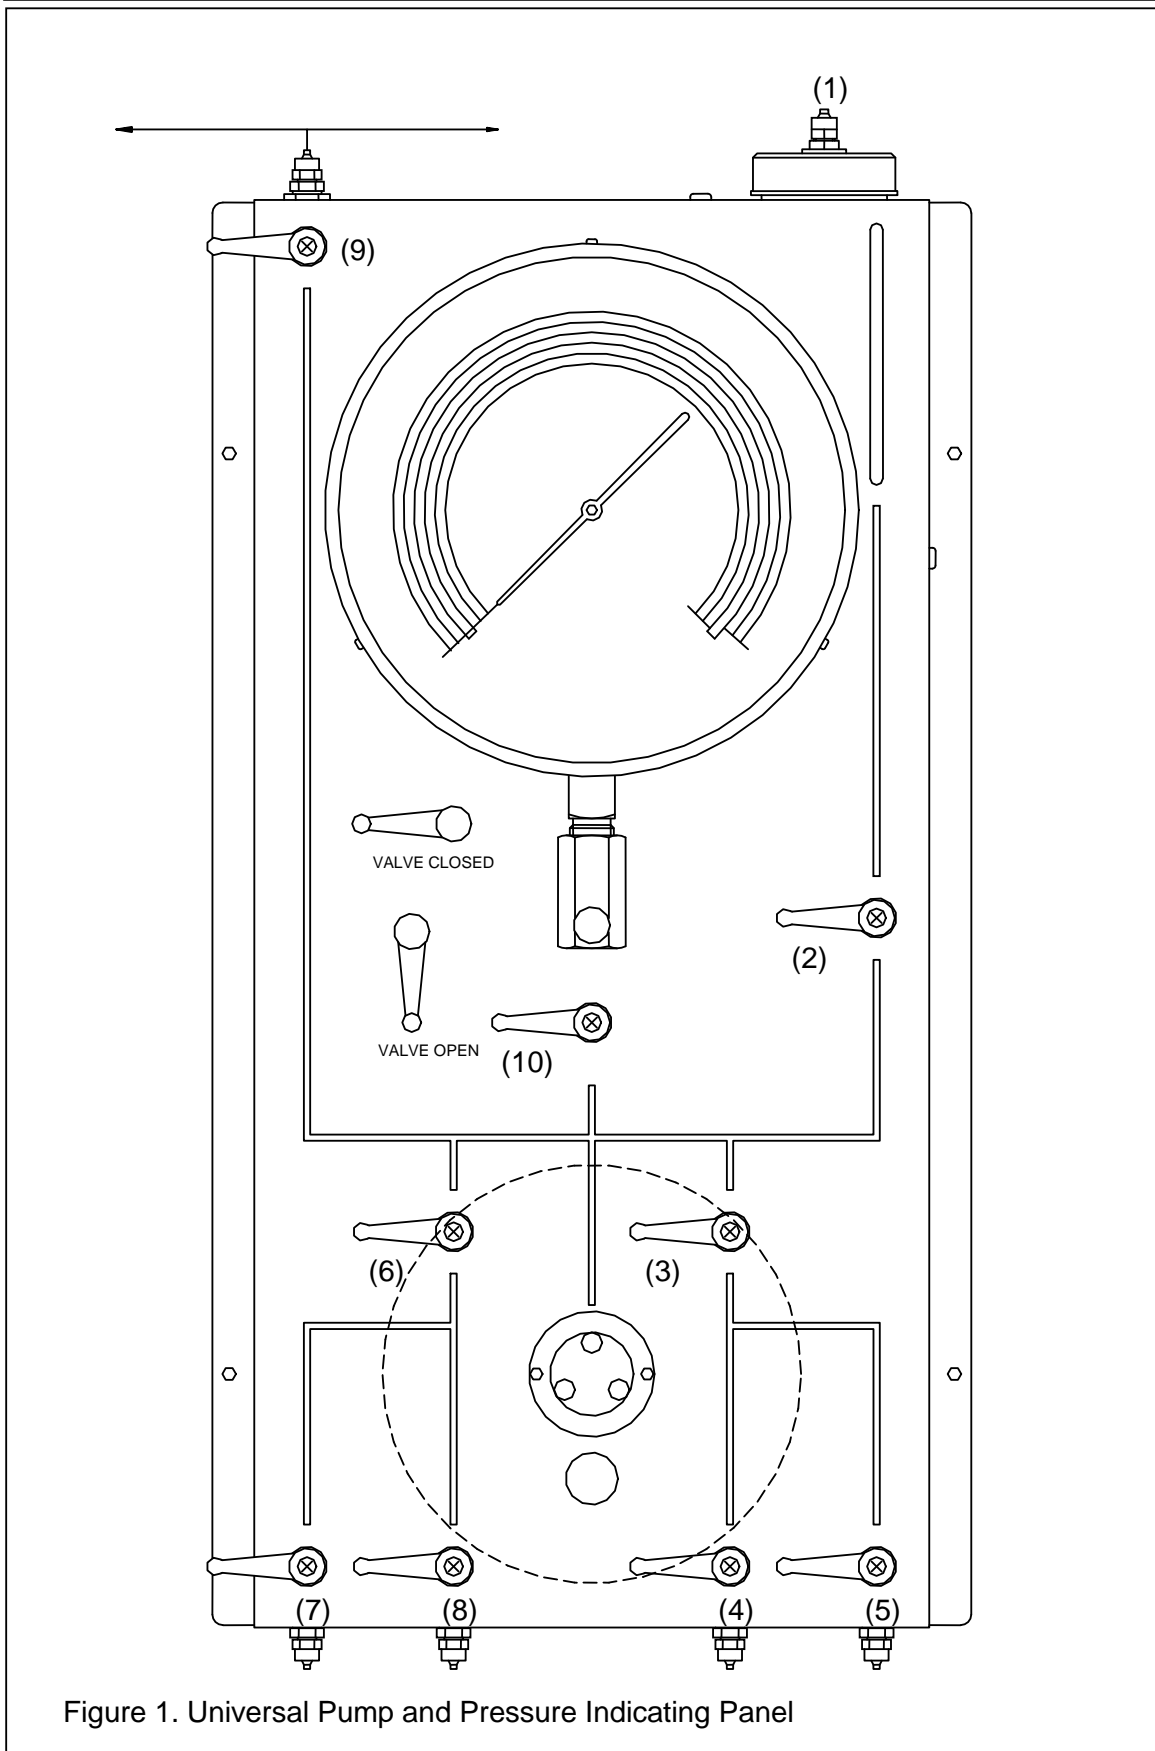

Figure 1. Universal Pump and Pressure Indicating Panel
2.1 Universal Pump and Pressure Indicating Panel (figure 1)
3.1 Universal Pump and Pressure Indicating Panel (figure 1)